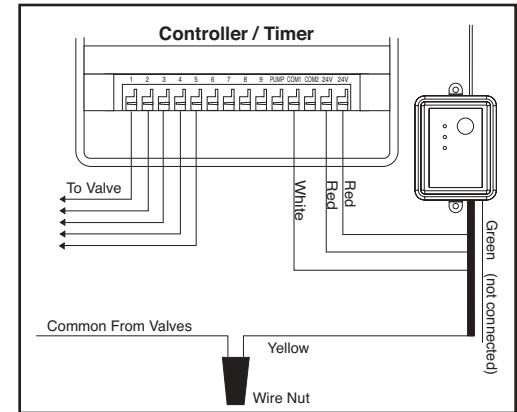

Figure 6: Wiring Sprinkler Timer with out Sensor terminals and with booster pump
3. Disconnect the common valve wire from the timer, and attach it (using a wire nut) to the yellow (normal closed) wire from the rain/freeze receiver. (see figure 6)
5. Connect the (2) red "24V" wires to the 24V terminals of the timer.